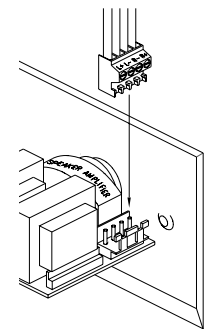

Figure 5
4. Plug the connectors into the VCS-2S as shown. (See **Figure 5**).